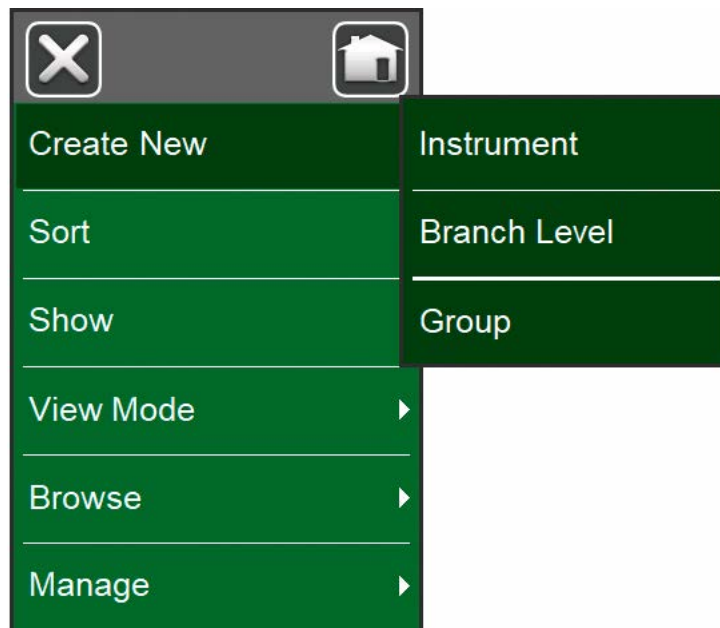

Figure 76: Instrument List Window's menu
- **Create New** for creating a new Instrument etc. (See Figure 76: Instrument List Window's menu)